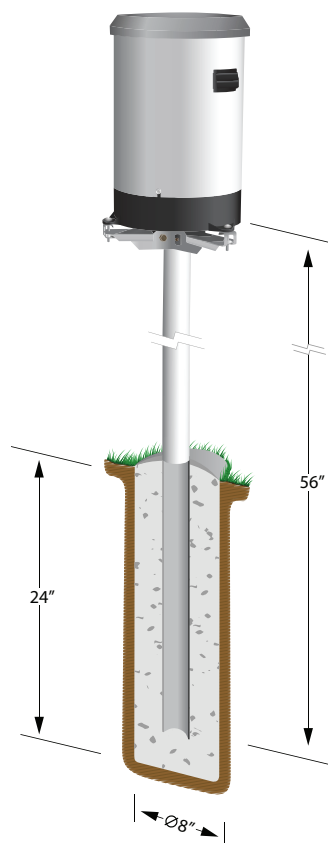

FIGURE 4.11-1. TB4 or TB4MM mounted onto a CM310 pole via the CM240 mount
1. Mount the rain gage to either the CM240 (Figure 4.11-1) or a user supplied bracket. Remove the rain gage funnel from the base by removing the three screws and lifting upward. Adjust the three nuts on the CM240 bracket to level the rain gage. On user supplied brackets, shims or